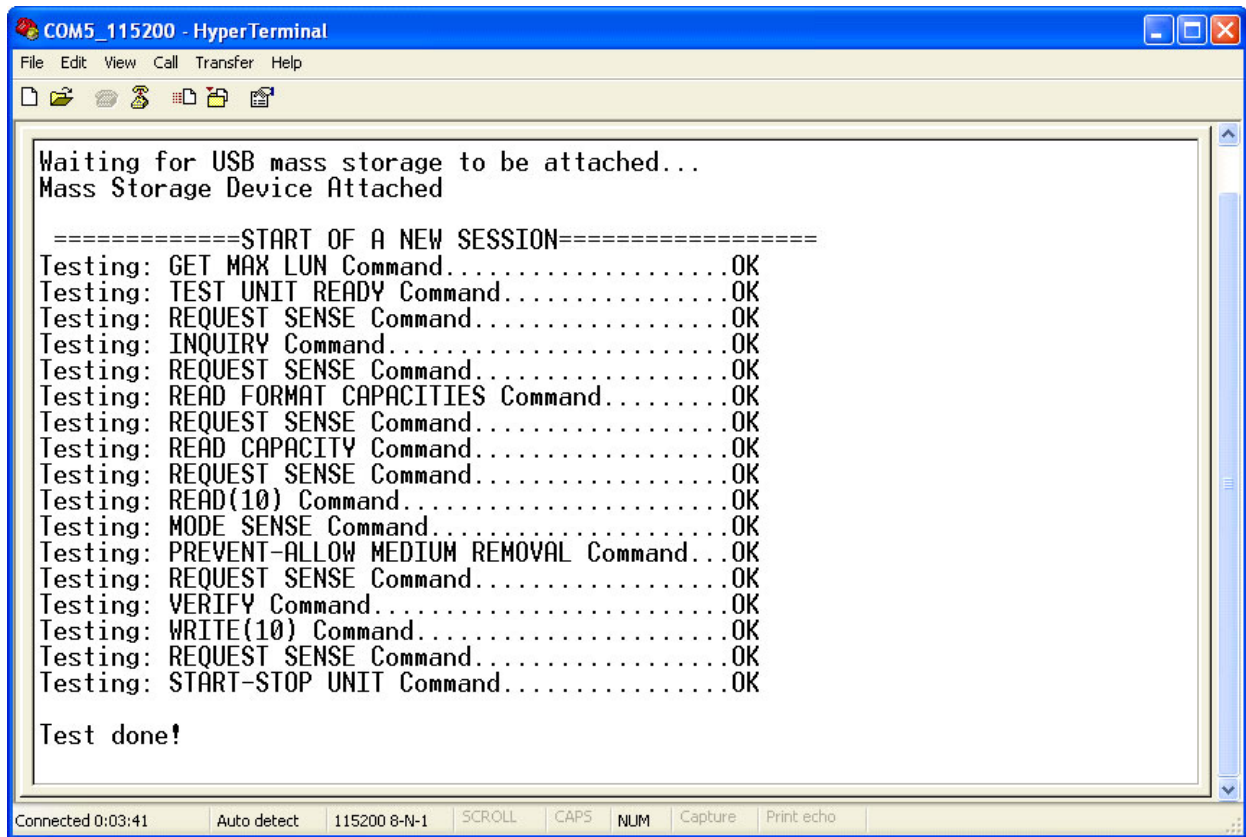

Figure C-2. Test result
3. Attach the USB Mass Storage to this board. The HyperTerminal displays a test result as shown in Figure C-2.